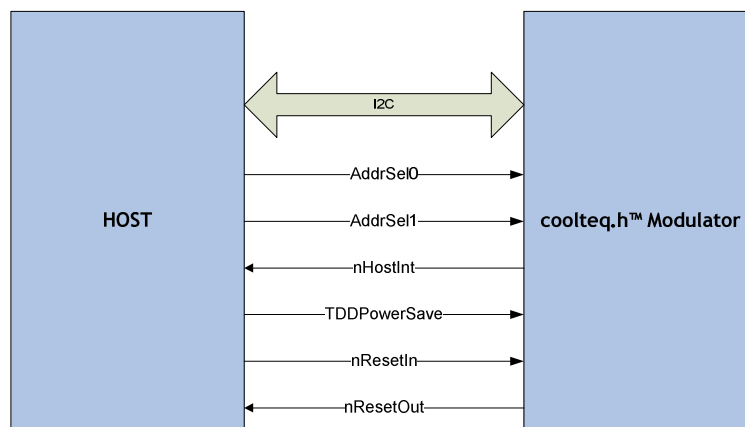

**Figure 10.** TDD Power Save Pin Signalling
The Power Saving Settling and Recovery from Power Saving duration should be taken into consideration when TDDPowerSave pin is signalled. LVDS Envelope Reference Data value should be kept its minimum level (0) through out the TDD Power Saving state. Detailed depiction of PA Drain Voltage Output, LVDS Reference Envelope Data and TDDPowerSave pin level are given in **Figure 10**.